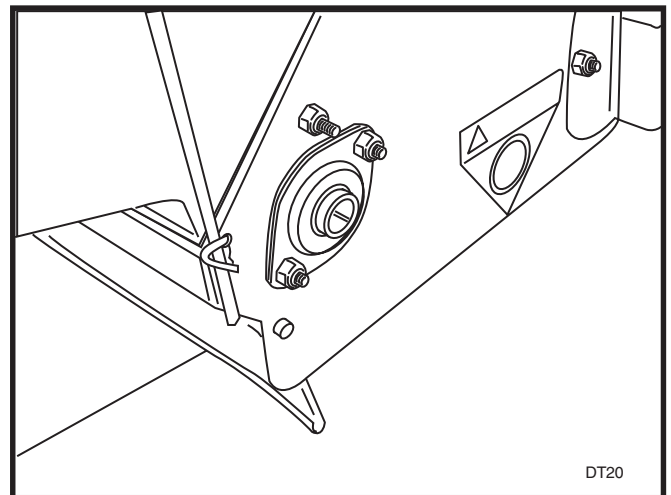

FIGURE 2
9. Place seed box on unit, replace bearing with eccentric collar to the outside. The screws that attach the seedbox to the frame **MUST** have washers inside the seedbox on the screws. **DO NOT** overtighten and deform the plastic, snug-up **ONLY**. See Figure 2.